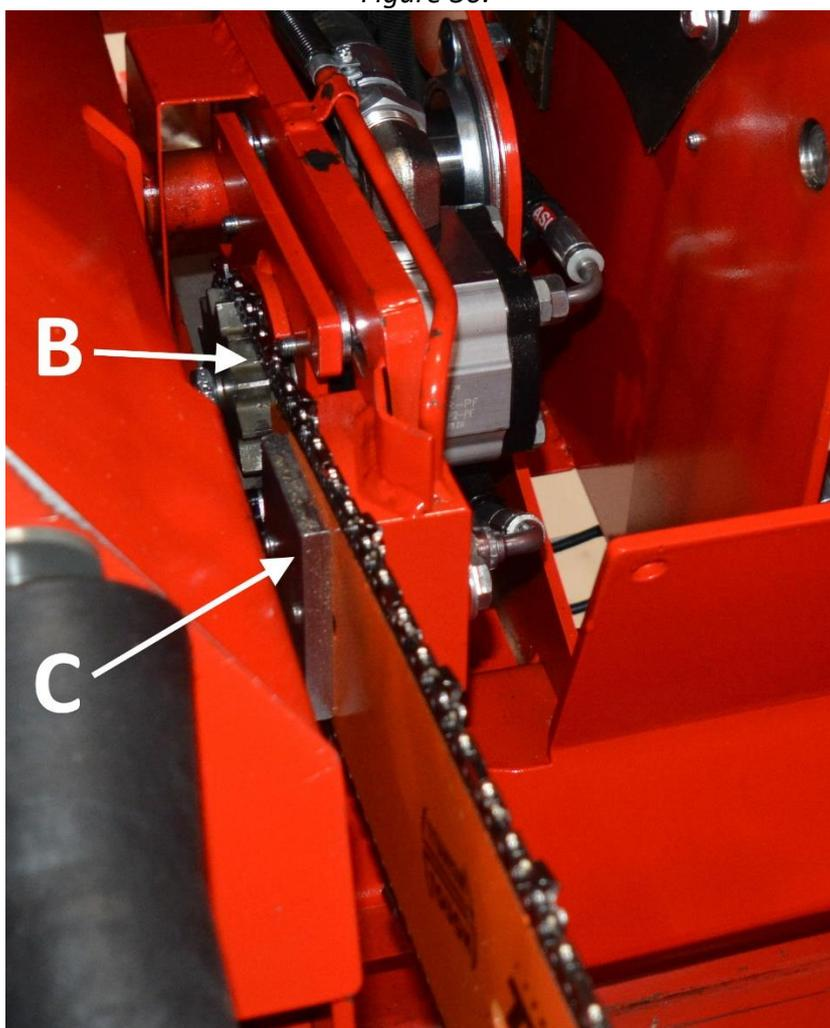

Figure 31.
3. Remove fastening plate C (Figure 31) and remove the saw bar from the groove.
4. Disconnect the joint by using pliers, for example, to pull out wire A (Figure 31) that holds the joint together.